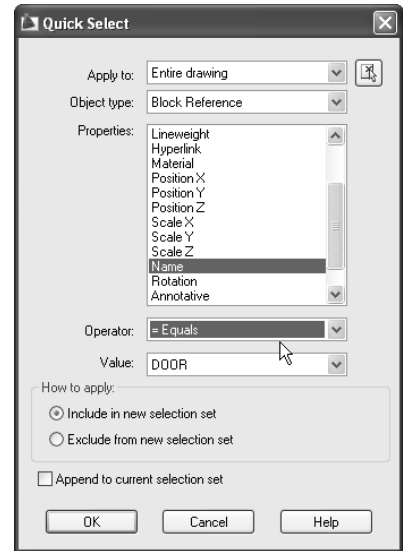

Figure 11.13
5. In the Operator list, select = Equals, as shown in Figure 11.13.